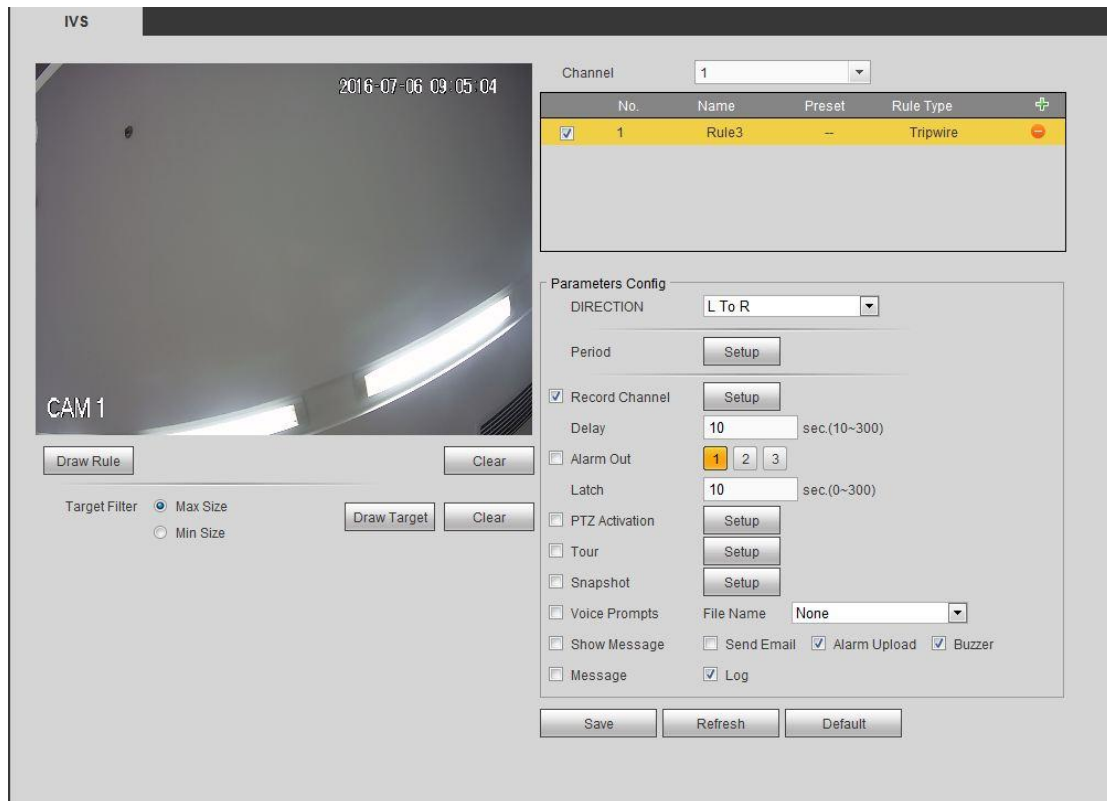

Figure 4-73
Step 2 Check the Tripwire box to enable tripwire function. See Figure 4-73.